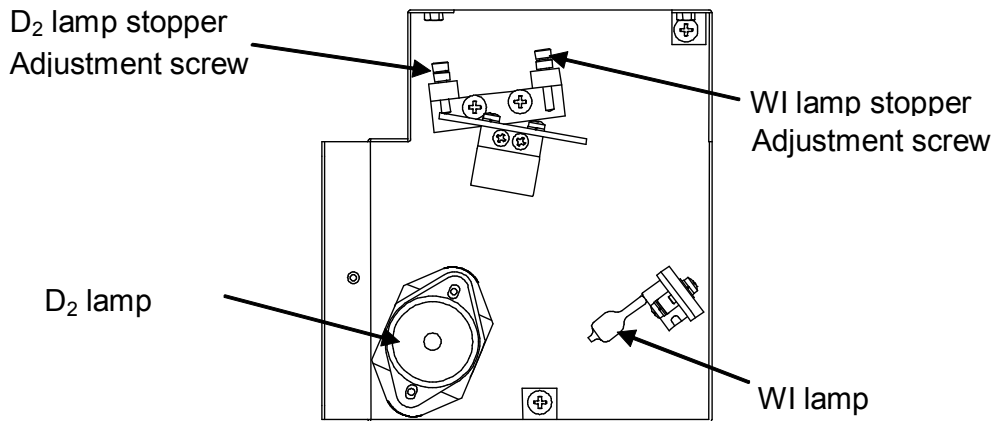
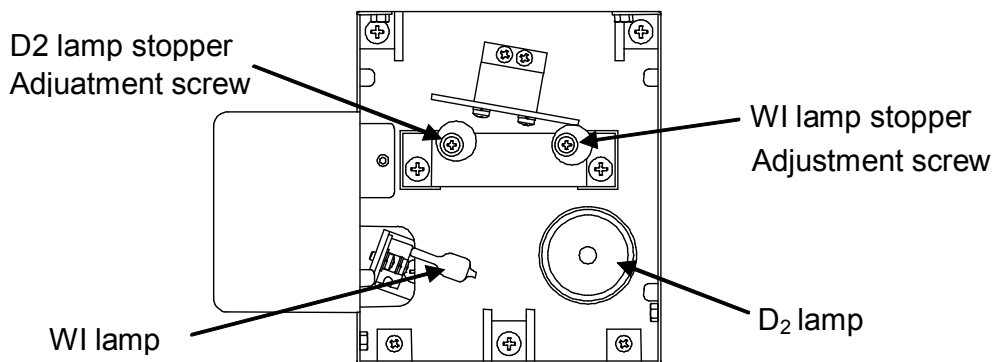

Figure 5.5 Light source unit (V-630)
Figure 5.6 Light source unit (V-650/660/670)
- (2) Remove the halogen lamp from the socket.
- (3) Insert a new halogen lamp into the socket (Fig. 5.5 or 5.6).
- (4) Adjust the light source mirror as described in Section 5.3.2.2 or 5.3.2.3.
- (1) Slide the outer lid of the light source unit to remove it.
- (2) Remove the deuterium lamp from the socket.
- (3) Insert a new deuterium lamp into the socket (Fig. 5.5 or 5.6).
- (7) Turn the halogen lamp stopper adjustment screw (Fig. 5.5 or 5.6) and search for a position where the value displayed on the monitor is a maximum.
- (8) Replace the lid of the light source unit.
- (7) Turn the deuterium lamp stopper adjustment screw (Fig. 5.5 or Fig. 5.6) and search for a position where the value displayed on the monitor is a maximum.
- (8) Replace the of the light source unit.
- (4) Slide the lid of the light source unit to remove it.
- (5) Turn the WI lamp stopper adjustment screw (Fig. 5.5 or Fig. 5.6) and search for a position where the value displayed on the monitor is a maximum.
- (6) Replace the lid of the light source unit.
(5) Turn the deuterium lamp stopper adjustment screw (Fig. 5.5 or Fig. 5.6) and search for a position where the value displayed on the monitor is a maximum.
(6) Replace the lid of the light source unit.